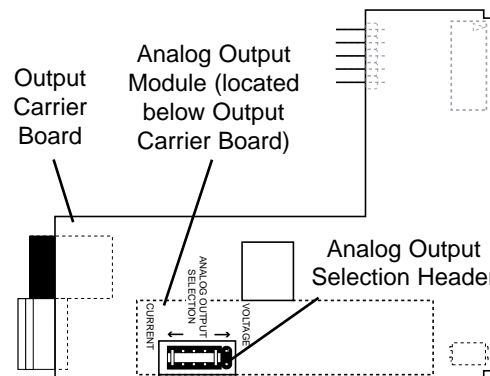

Figure 2 – Analog Output Selection Header Placement
- 1) See Figure 2. Make sure the ANALOG OUTPUT SELECTION HEADER on the analog output module is set in the appropriate position: VOLTAGE or CURRENT.